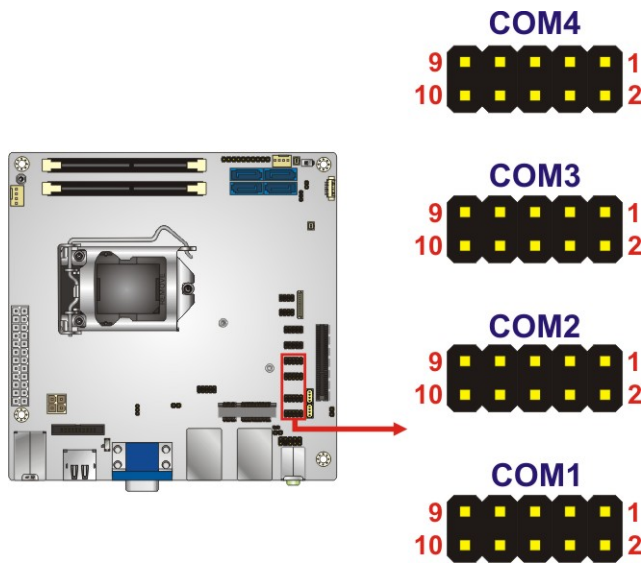

Figure 3-20: RS-232 Connector Locations
- CN Location:** See **Figure 3-20**